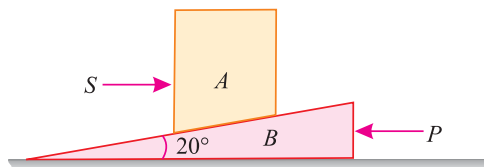

Fig. 9.18.
1. A block ( $A$ ) of weight 5 kN is to be raised by means of a  $20^\circ$  wedge ( $B$ ) by the application of a horizontal force ( $P$ ) as shown in Fig. 9.18. The block  $A$  is constrained to move vertically by the application of a horizontal force ( $S$ ). Find the magnitude of the forces  $F$  and  $S$ , when the coefficient of friction at the contact surfaces is 0.25.